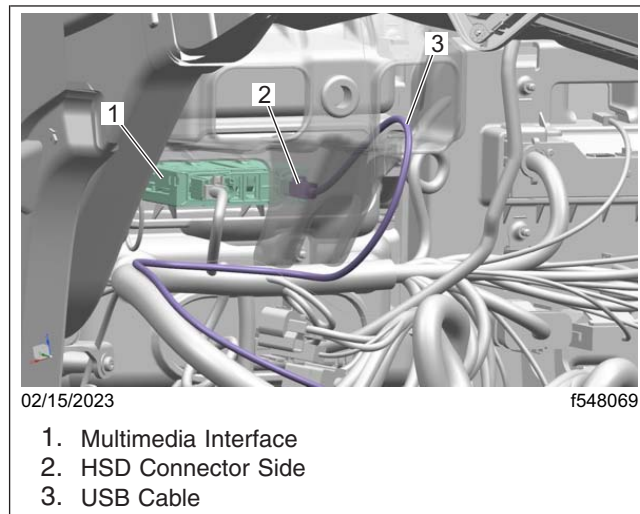

Fig. 24, USB Cable Connection at the Multimedia Box
19. Plug the other end of the USB cable into the multimedia box. See Fig. 24. This step is only necessary if there was no existing TomTom module.